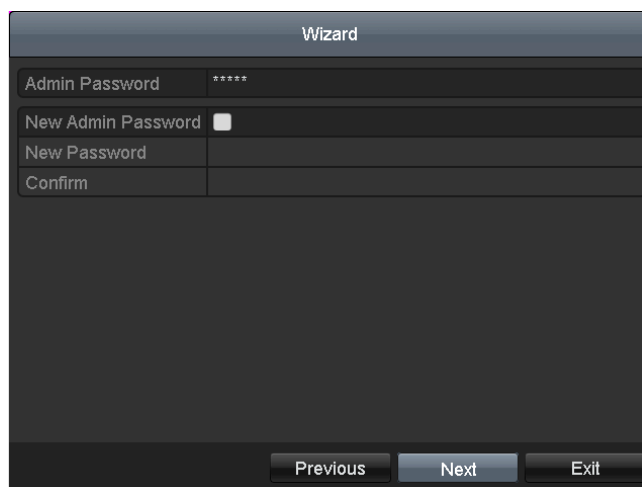

Figure 2.2 Login Window
2. Click **Next** on the Wizard window to enter the **Login** window, as shown in Figure 2.2.